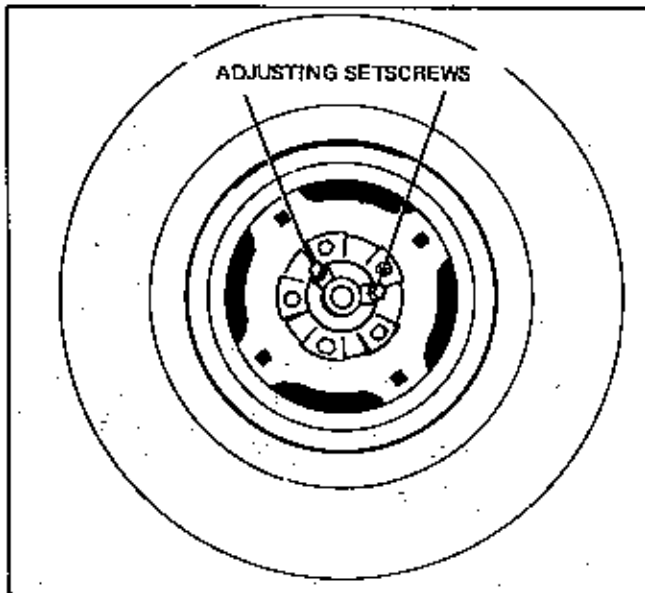

Figure 1.
1. Remove the two controlled traction bolts in the right hand wheel hub and install the 7/16-20 x 1/2" long cup point set screws. See Figure 1.
1. Insert the No. 125106 cross mount assembly through the holes in the bevel gear housing plates on the tractor and secure with the (1) 7/16-14 x 1" long capscrew, lockwasher and full hex nut as shown above.
2. Attach the No. 125107 right mount assembly to the cross mount assembly as shown in Figure 1 using the 3/8-16 x 2-1/2" long capscrew, lockwasher and full hex nut.